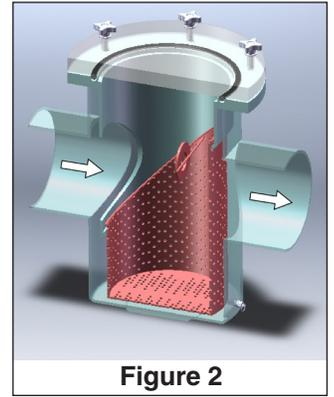
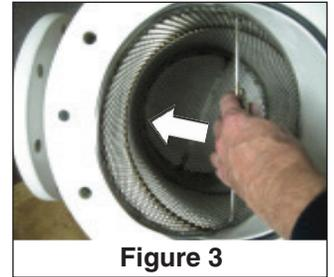

Figure 2
Figure 3
2. Position the basket correctly into the strainer body so that the flow direction is into the open basket, see **Figure 2**. Do not force the basket. It fits only one way against the diagonal ledge. Verify that the handle target is perpendicular to the incoming flow, see **Figure 3**.
7. Replace the basket making sure it is properly oriented. Insert the basket into the strainer body so that the flow direction is into the open basket, see **Figure 2**. Do not force the basket. It fits only one way against the diagonal ledge. Verify that the handle target is perpendicular to the incoming flow, see **Figure 3**.